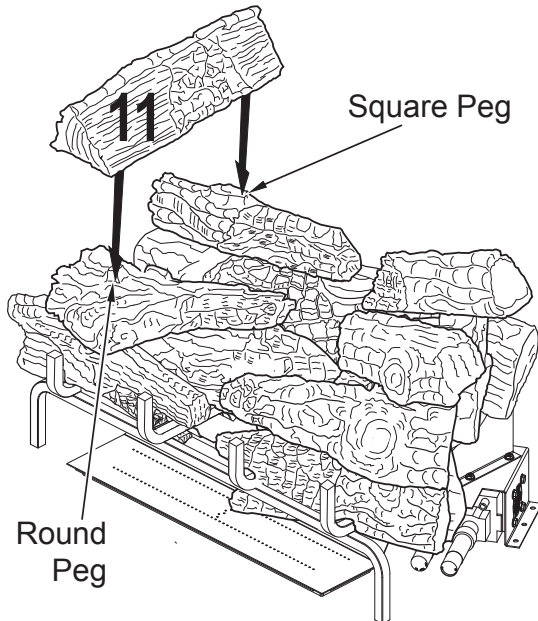

Figure 32 - Installing Log # 11
11. Place the left top log (#11) on top of the left back top log (#5) and left top forked log (#6) as shown in **Figure 32, Page 18**. Match the round peg on the top of the left top forked log (#6) with the round hole on the bottom of the top left log (#11) and rectangular peg on the top of the left back top log (#5) with the rectangular hole on the bottom of the top left log (#11).